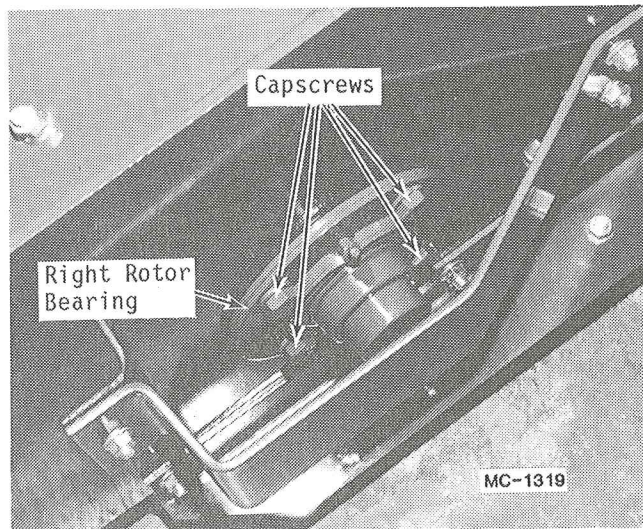

Figure 16
2. Remove stub shaft guard. (See Figure 16.)